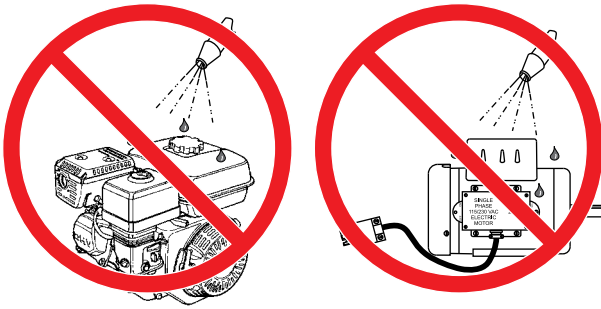

Figure 41. No Spraying of Water
10. **NEVER!** pour or spray water over the engine or electric motor (Figure 41).